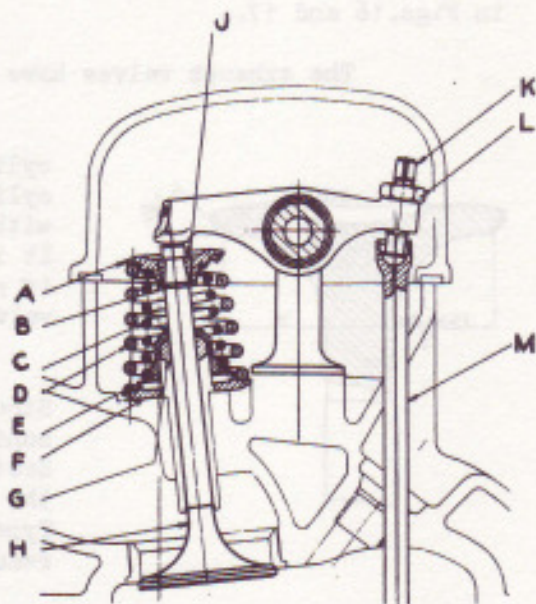

FIG. 15. ARRANGEMENT OF INLET VALVE.
The ball ended adjusting screw (K, Fig.15 - Sub-Section BE.7) is screwed into the rocker and locked by the nut L. On releasing the nut the screw can be turned by means of the inlet tappet spanner.
down the fulcrum pillar (B) on to the stud. Place the stirrup (C) over the top washer (A, Fig.15) of the valve and lock slide in position by means of the thumb screw.
Replace the outer washer (See Fig.15) followed by a new valve stem packing and the inner washer.